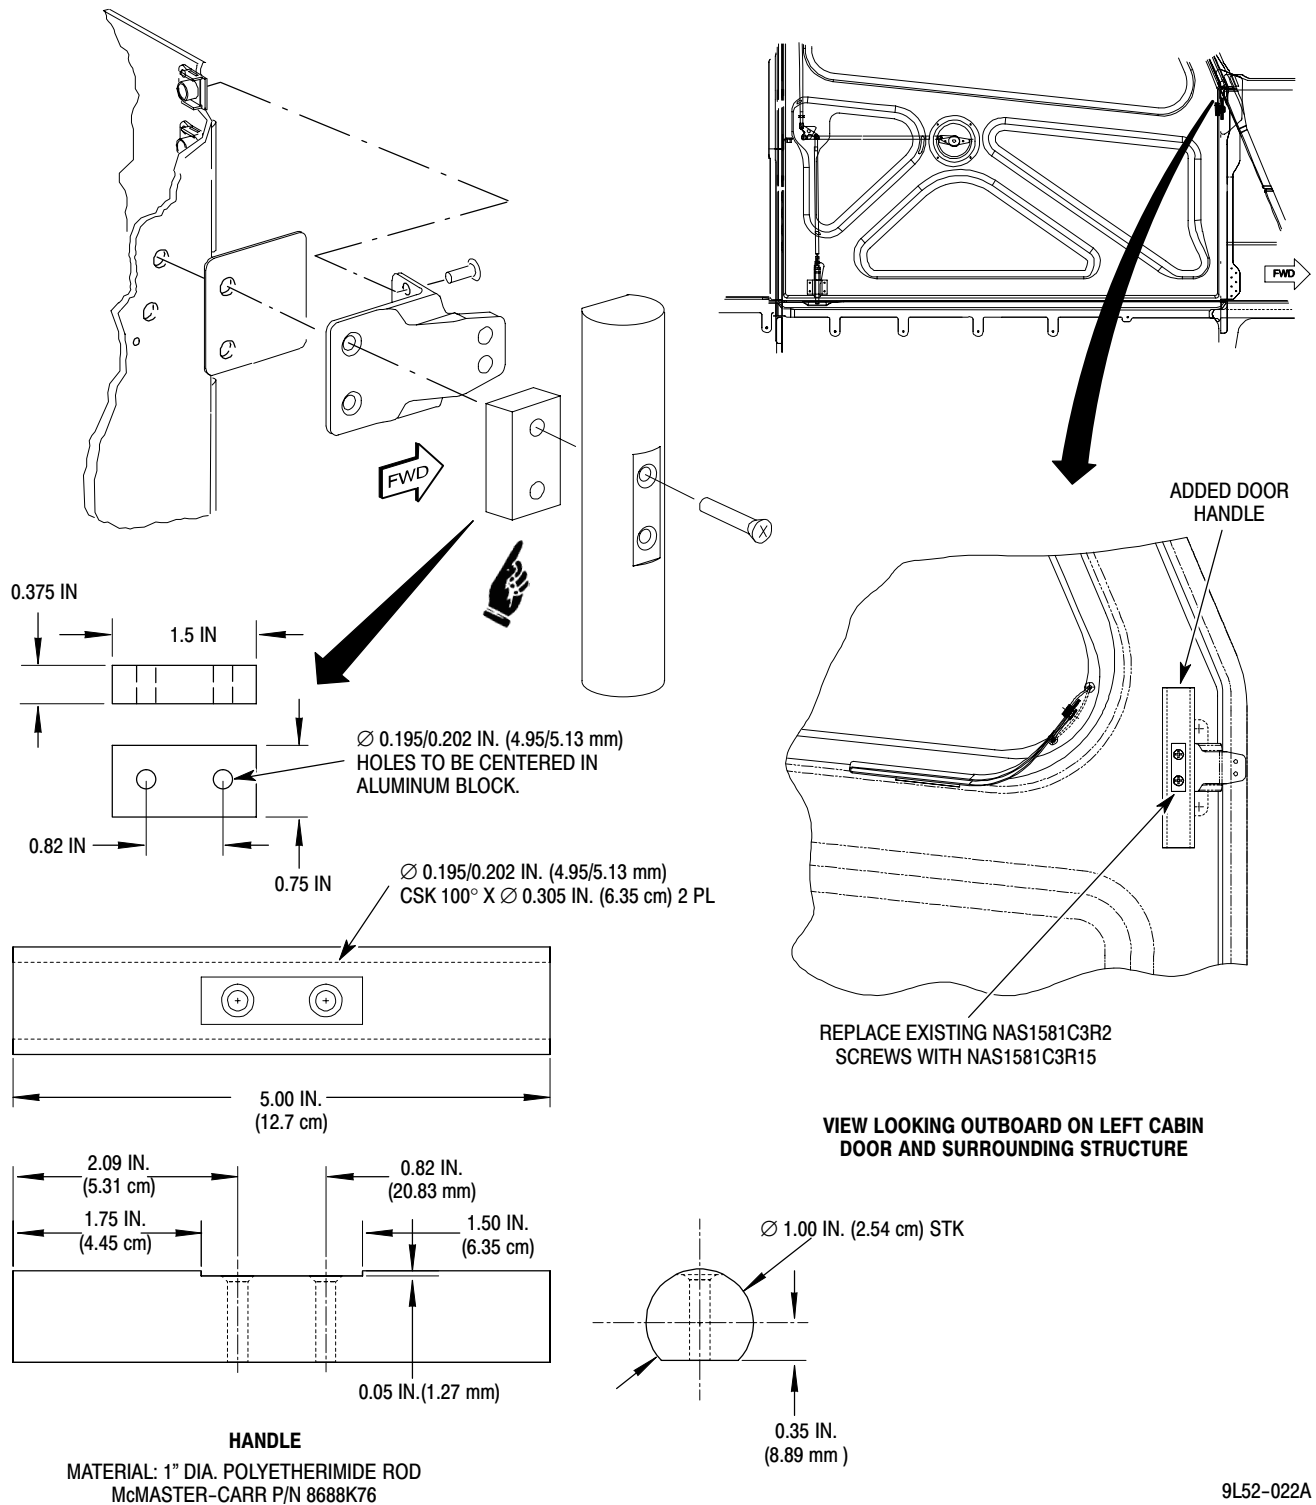

Figure 1. Cabin Door Handle Installation
(Ref. Figure 1)
- (1). Fabricate handle per Figure 1, deburr holes and radius all edges.
- (2). Fabricate aluminum spacer as shown in Figure 1.
- (3). Remove screws from cabin door fitting indicated in Figure 1 and discard.
- (4). Install and tighten replacement screws, handle and spacer into screw holes of cabin door fitting indicated in Figure 1.